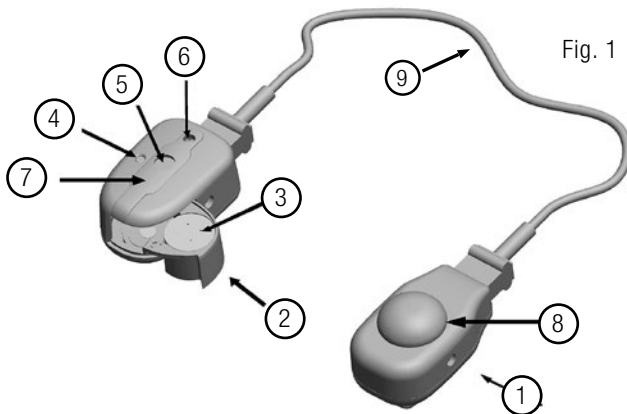

Fig. 1
The monaural bone conduction hearing system contact mini consists of one electronic part and one bone conduction receiver (see Figure 1).
The binaural bone conduction hearing system contact mini consists of two electronic parts and two bone conduction receiver (see Figure 1).
- 1) First remove the electronic component, bone conduction receiver and cable from the hair band. Then dip the hair band into a suitable container filled with hot water for approx. 4 minutes, as shown in Figure 1. (80 degrees Celsius). Please make sure that the rubber mounting for the cable does not come into contact with the water.